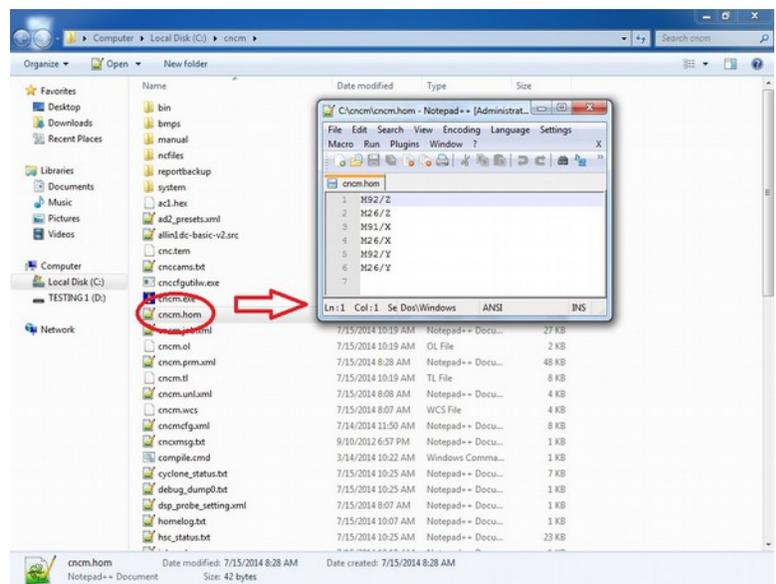

Figure 6.7.3
7. Edit the file as needed as seen in Figure 6.7.3. There should be the correct number of axes defined in this file, and they should be listed in the correct order.